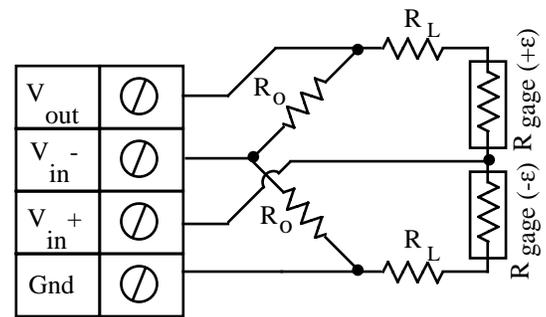

Fig 3.9 - Strain Measurement - Half Bridge Circuit (Axial)
Measuring axial strain using a 1/2 bridge configuration involves wiring two strain gages as shown in figure 3.9, applying a voltage across the bridge, and measuring the voltage across the two intermediate bridge nodes via a pair of instruNet Vin+ and Vin- input terminals. The excitation voltage for the bridge is supplied by either the instruNet Vout terminal or by an external voltage source. In figure 3.9, Rgage is a strain gage, RO is either a fixed resistor of known value or a fixed unstrained strain gage of value RO, and RL is the lead wire resistance. instruNet calculates the value of the strain, returning "strain" engineering units, using the equations:
4. Wire your voltage source per figure 3.9, and refer to the steps at the beginning of this chapter for more information on how to set up your sensor.5,10